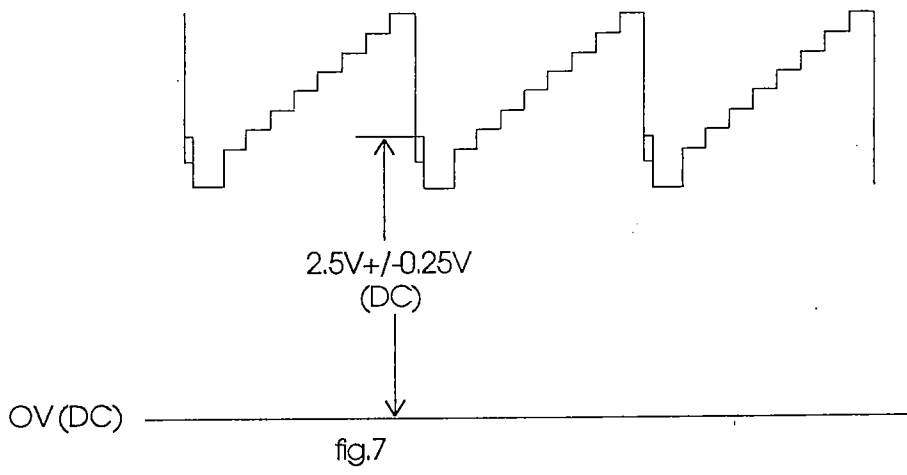

fig.7
5. Adjust screen voltage on FBT until the waveform to  $2.5\text{V} \pm 0.25\text{V DC}$  see fig.7.
7. Press REMOTE value (+) (-) button adjust value to (18).
10. Press REMOTE UP/Down and value (+) (-) button adjust blue str value to (0).